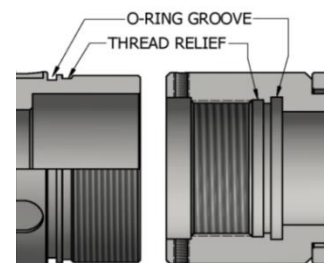

Fig. 2
**CAUTION7:** To ensure tool operates properly, install o-rings in o-ring grooves **NOT** thread reliefs (Fig. 2).